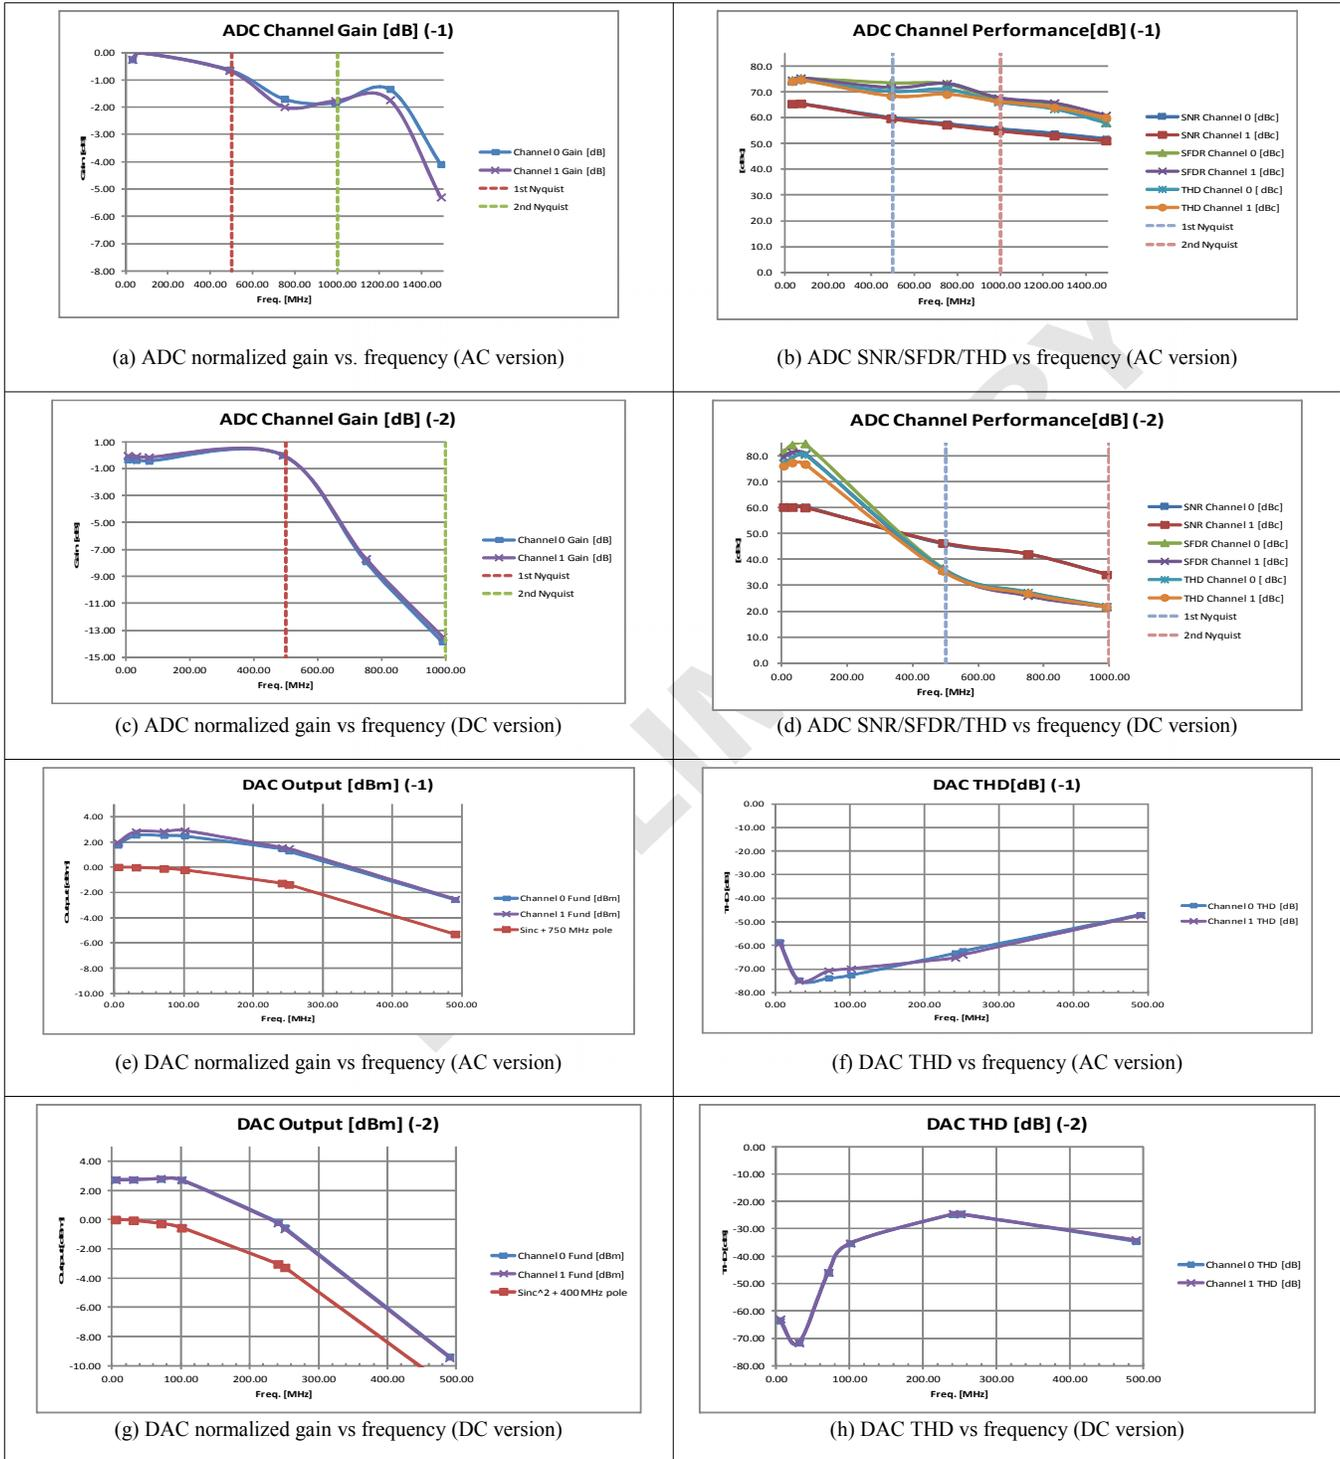

Fig. 1 Representative performance plots for the ADC and DAC.
1. First, it is important to note that for the DAC, any attempt to convey an output signal in the 2nd Nyquist zone ($0.5 f_{clk} < f_{out} < f_{clk}$) will result in output an output signal indistinguishable from its 1st Nyquist zone image. For example, a 750 MHz sine wave (absent any signal processing) clocked at 1000 MHz and a 250 MHz sine wave would be identical by any external measurement. Thus conveying a 2nd Nyquist zone signal requires the use of a suitable highpass or bandpass filter. For the 750 MHz example just introduced, a filter that passes 750 MHz and strongly rejects the 250 MHz image (which would be stronger than the desired output) is required. That being said, the raw output of the DAC would be “colored” by the response of the circuitry between the DAC IC and the output connector. This lowpass response for the -1 (AC) version follows a $\text{sinc}(\pi f_{out}/f_{clk}) + 750 \text{ MHz}$ pole response. For the -2 (DC) version it follows a $[\text{sinc}(\pi f_{out}/f_{clk})]^2 + 400 \text{ MHz}$ pole response. These responses are plotted out in Fig. 1(e) and Fig. 1(g) on page 9 of this datasheet.
3. THD was measured directly using a spectrum analyzer. For practicality, only the second and third harmonics were used in the calculation (as the fourth and higher order harmonics were small enough not to affect the computed value for the frequencies at which these data were taken). See Fig. 1(f) and Fig. 1(h) for representative plots of THD.